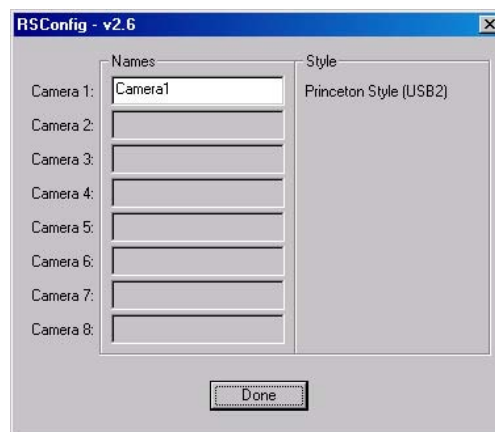

Figure 12. RSConfig dialog box
3. When the RSConfig dialog box (Figure 12) appears, you can change the camera name to one that is more specific or you can keep the default name "Camera1". When you have finished, click on the **Done** button.